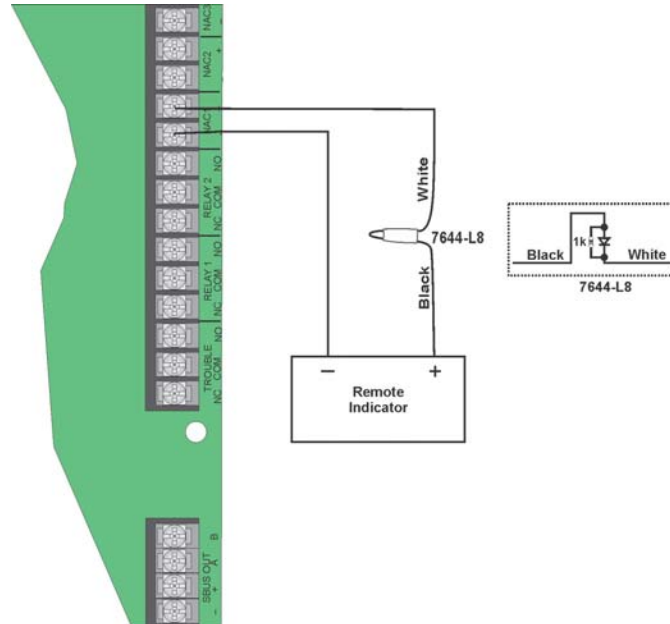

Figure 4.58 Polarity Reversal Connection Using the 7644-L8
1. Wire the 7644-L8 to the control panel as shown in Figure 4.58. Do not install an EOL resistor on the terminals of the circuit used.